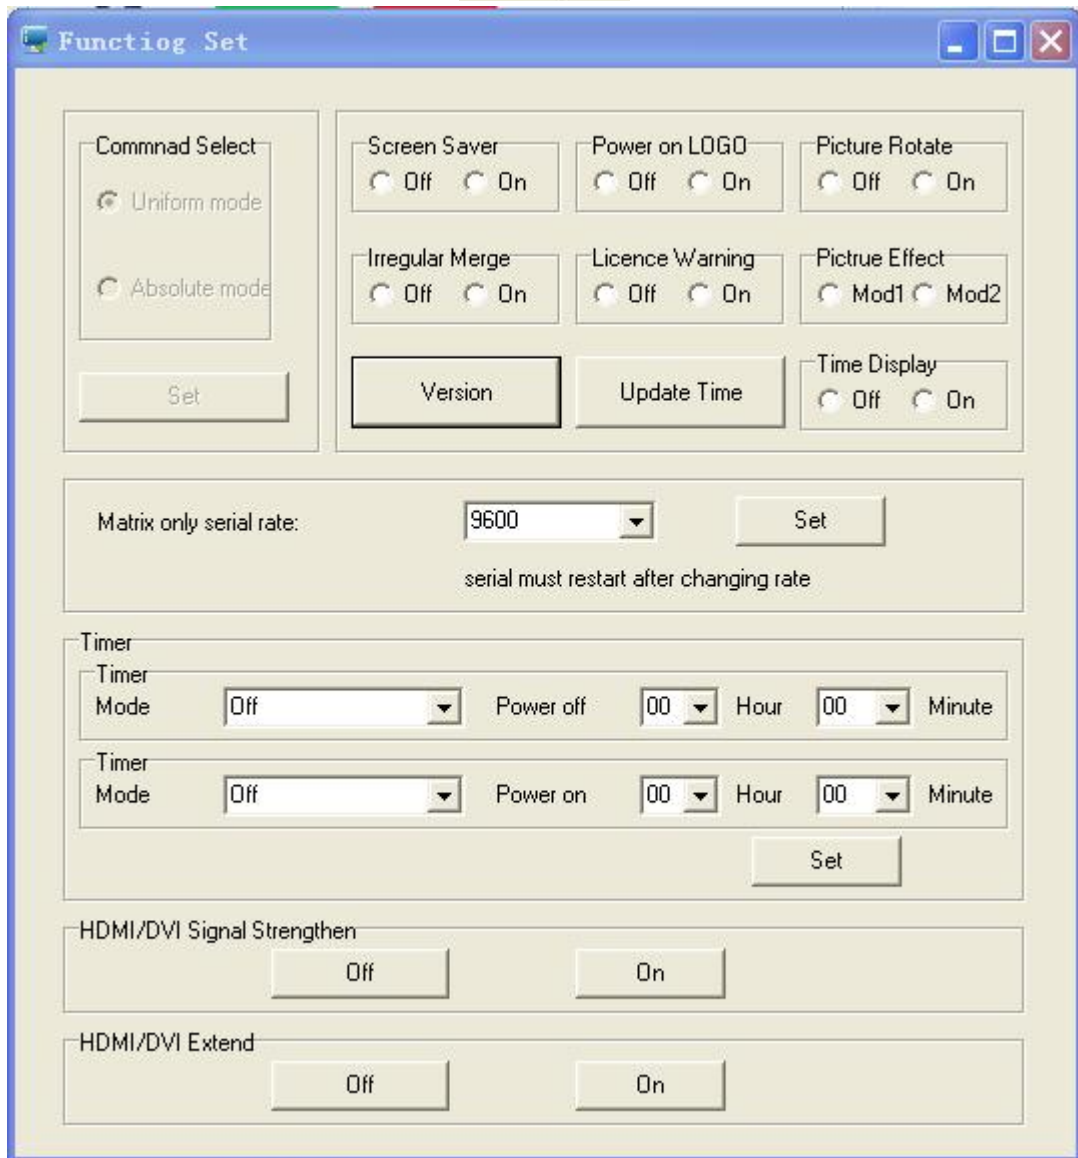

Fig. 17
(2). Software settings: click software settings, as shown in Fig. 17